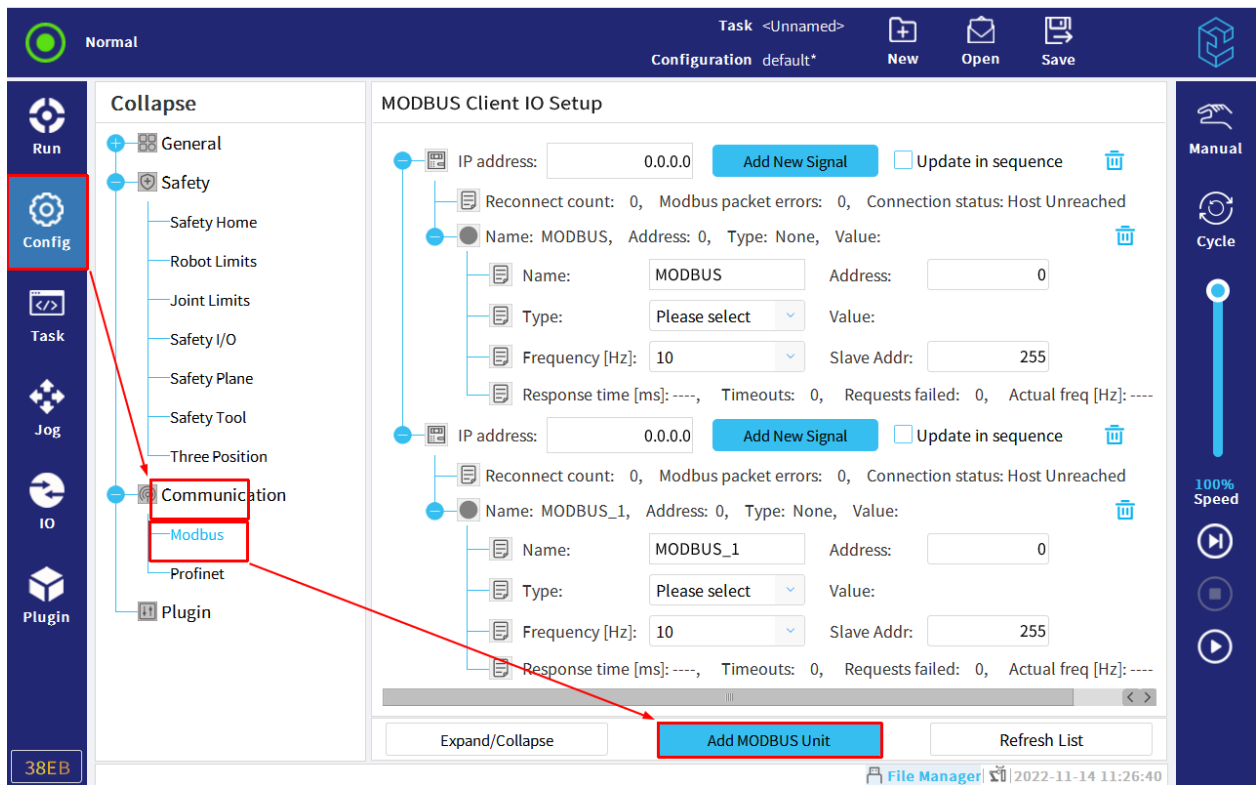

Figure 11-35 Modbus
1. Click "Config > Communication > Modbus" to enter the "MODBUS Client IO Setup" interface, as shown in Figure 11-35.